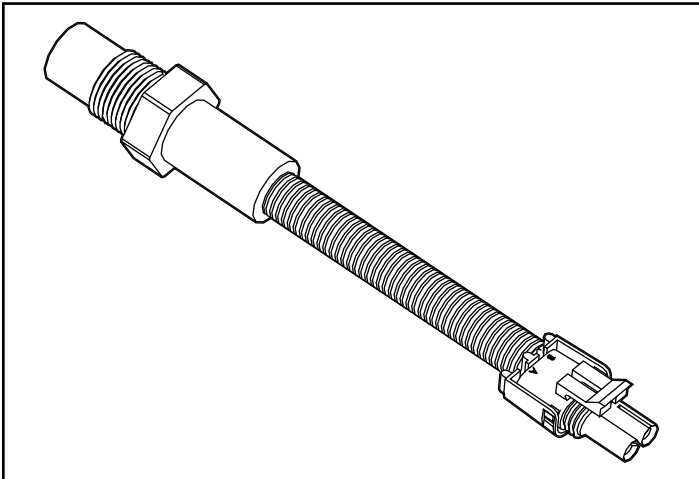

Figure 10
Step 1: Disconnect the thermostat harness (see Figure 10).